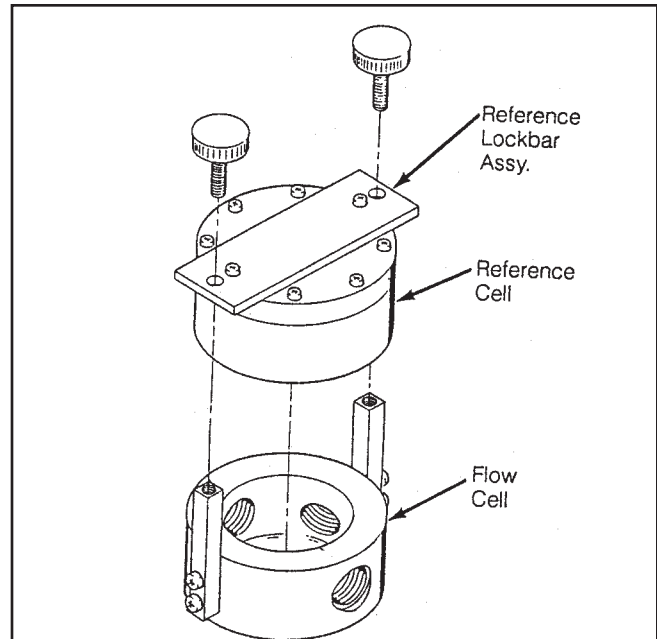
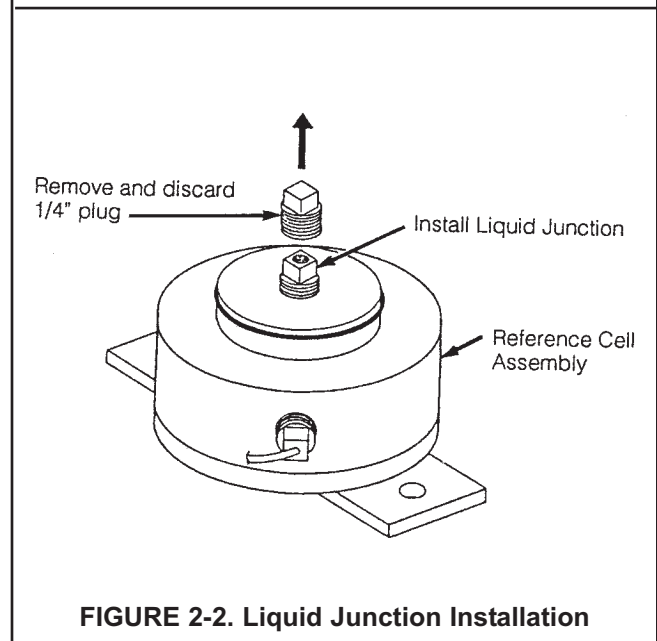

Figure 2-1 Reference Cell Assembly
FIGURE 2-2. Liquid Junction Installation
1. Remove the reference cell by loosening the screws (or removing the plastic knobs on applicable models) on the reference lockbar assembly (see Figure 2-1) then turning it about ten degrees clockwise and pulling it straight out. Hold the cell in the position shown in Figure 2-2 and remove the solid plug from the reference cell body. Gently break away any salt crust which may have formed around or inside the opening. Top off the reference cell with reference gel solution (P/N 9210233) or distilled water, tapping the cell gently to dislodge any air bubbles.